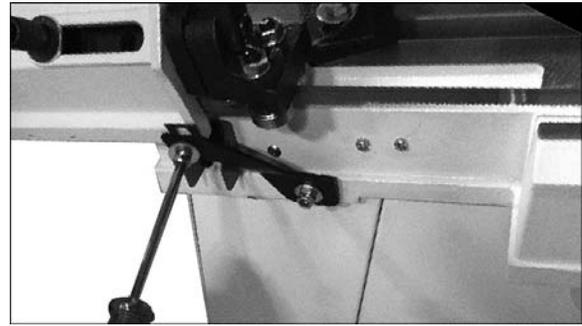

Figure 3
4. Remove the fixed plate which secured the saw head for transport. Figure 3.